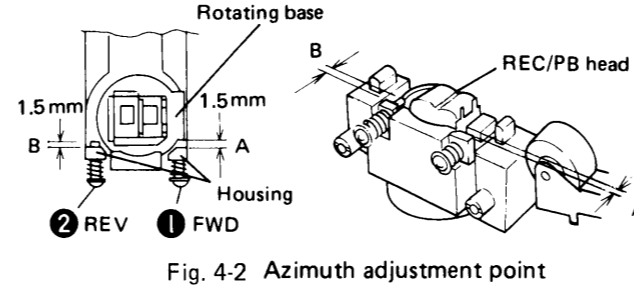

Fig. 4-2 Azimuth adjustment point
- Adjust the azimuth screw ① using a (-) screwdriver as shown in Fig. 4-2, 3 so that the distance (A) between housing and rotating base is 1.5 mm.
- Adjust the azimuth screw ② using a (-) screwdriver as shown in Fig. 4-2, 3 so that the distance (B) between housing and rotating base is 1.5 mm.